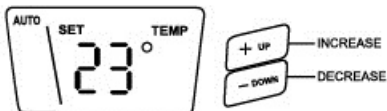

Figure 2
THERMOSTAT INSTRUCTIONS (FIGURE 2)
- To adjust "**SET TEMP**", press the  to increase the desired temperature and the  to decrease the desired temperature. (**FIGURE 2**)